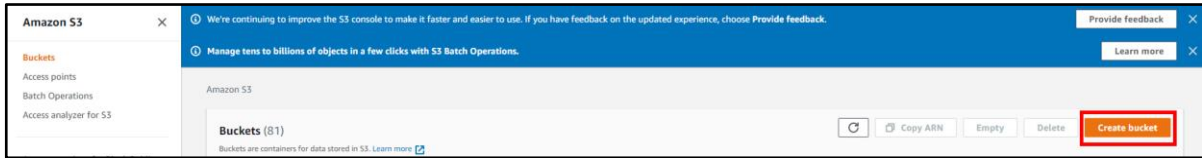

Figure 10: Create Bucket Selection Window
3. To create a bucket with default settings, click **Create Bucket** as in Figure 10.